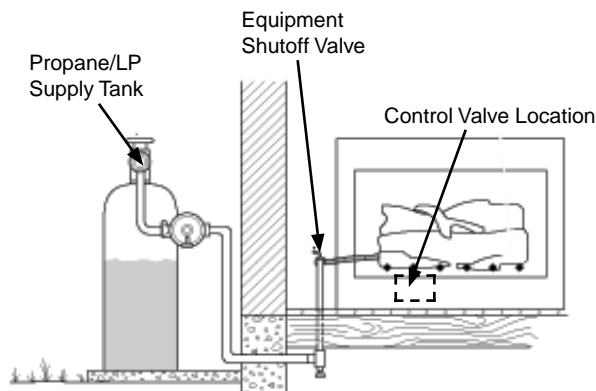

Figure 11- Checking Gas Joints (propane/LP only)
3. Check all joints from gas meter to equipment shutoff valve for natural gas or propane/LP supply to equipment shutoff valve for propane/LP (see Figure 11). Apply noncorrosive leak detection fluid to all joints. Bubbles forming show a leak.
4. Check all joints from equipment shutoff valve to gas control (see Figures 11 and 12). Apply noncorrosive leak detection fluid to all joints. Bubbles forming show a leak.